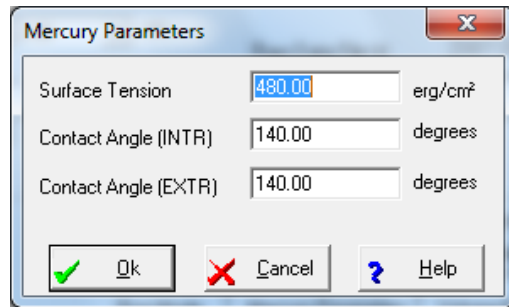

Figure 19. Mercury parameters dialog box
- If it is necessary to change the constants for mercury, click **Mercury Parameters**. The mercury parameters dialog box will be displayed (Figure 19).